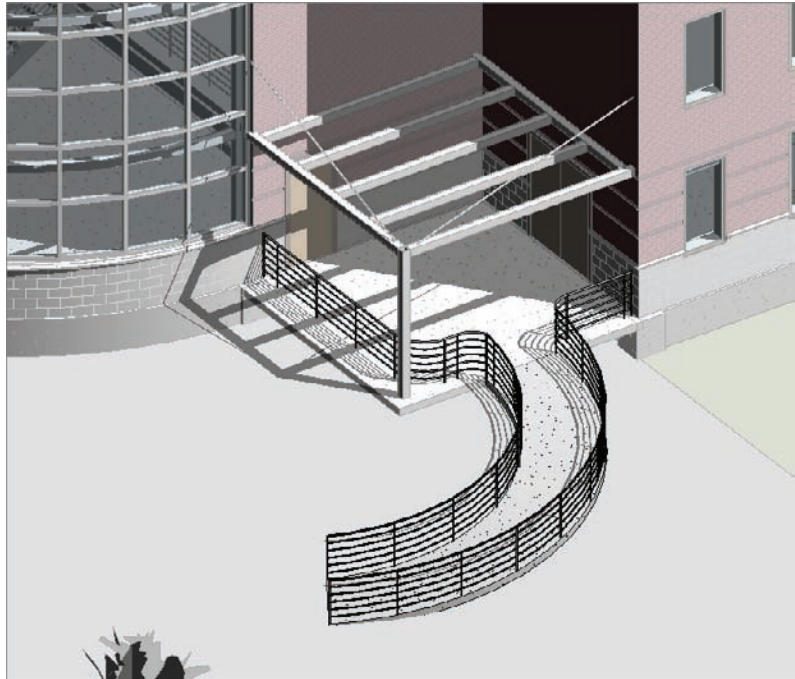

FIGURE 21.13 The curved option
2. The L-shaped items disappear. Draw a ramp and a railing similar to those shown in Figure 21.13. Remember, the ramp is from Level 1 to Level 1, with a -2'-6" bottom offset.